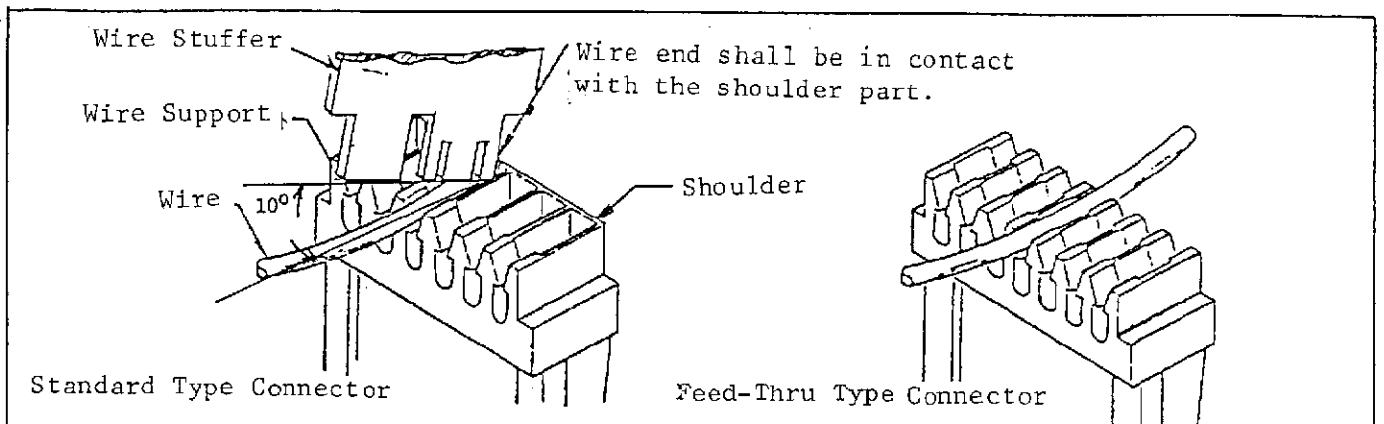

Fig. 3
- 3.3 Set each wire between the wire supports of the connector. Insure that the end of the wire is in contact with the shoulder of the connector (Fig. 3).
- 3.4 Position the wire stuffer of the tool on the wire set in the connector, and press it down lightly while inclining it about 10° (Fig. 3) using the shoulder of the connector as a guide. Remove the tool, and insure that the wire is set in the center of the contact cavity of the connector.